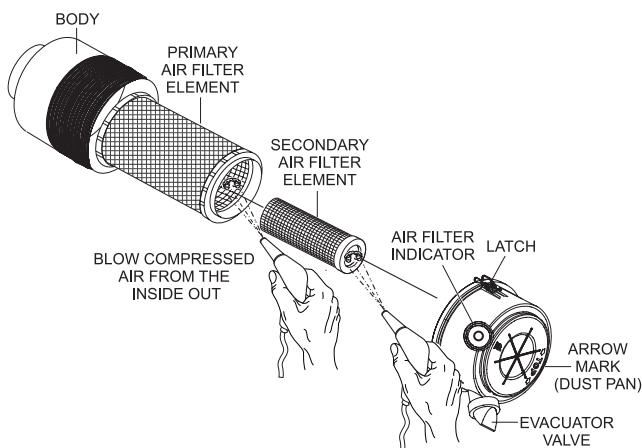

Figure 54. Engine Air Cleaner
This Volvo diesel engine is equipped with a replaceable, high-density, paper air cleaner element (Figure 54). The air cleaner is also equipped with an inner (secondary) element that is used as a backup filter should the primary element become damaged. Check the air cleaner daily or before starting the engine. Replace the air cleaner as needed.
1. Release the latches that secure the cover to the air cleaner body (Figure 54).
2. Remove the **air cleaner cover** (Figure 54) and set it aside.
3. Remove both the primary and secondary air cleaner elements (Figure 54).
5. To clean the **primary element** (paper air filter) as shown in Figure 54, tap the filter element several times on a hard surface to remove dirt, or blow compressed air, not to exceed 30 psi (207 kPa, 2.1 kgf/cm²), through the filter element from the inside out.
8. Clean the inside of the **air cleaner body** (Figure 54).